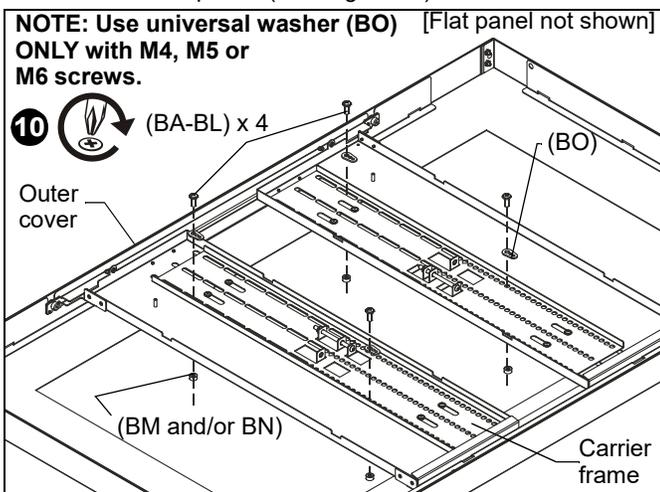

Figure 11
**IMPORTANT ! :** The M8 screws do **NOT** require a washer. Use the universal washer (BO) **ONLY** with the M4, M5 or M6 screws.
10. Place carrier frame onto back of flat panel and match the VESA pattern on flat panel to the carrier frame mounting slots. Also match the threaded studs in outer frame to the hooks on the carrier frame. (See Figure 11)
11. Use selected screws (BA-BL), washers (BO--if required), and spacers (BM, BN--if required), to connect carrier frame to back of flat panel. (See Figure 11)